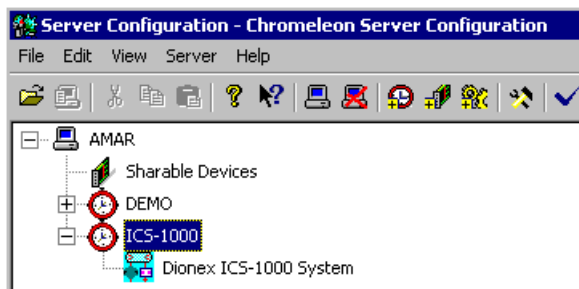

Figure B-13. Server Configuration with ICS-1000 Timebase
1. In the Server Configuration program, click the + icon next to the server name to expand the folder. The timebase you created is displayed (see Figure B-13).